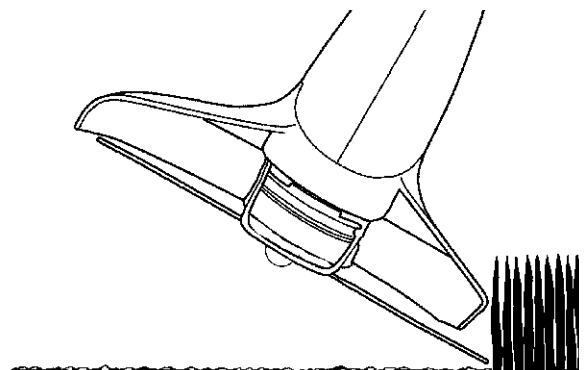

Fig. 14
5. **SCALPING** (Fig. 14). Scalping refers to removal of all vegetation down to the ground. To do this, tilt the stringhead to about a 30 degree angle to the left. By adjusting the handle you will have better control during this operation. Always keep a distance of 50 feet (15 meters) from other people and animals when scalping. Do not attempt this procedure if there is any chance flying debris could injure operator, other people or cause damage to property.